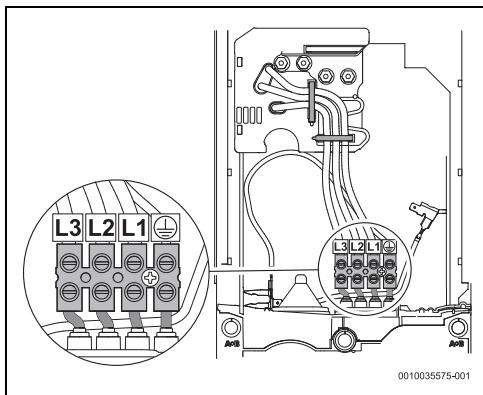

Fig. 42 Lower connection with individual cables
- Lower Connection with individual cables (Fig. 42)